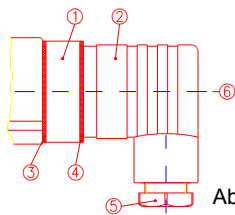

Abb. 6
- Loosen the central screw (pos. 6) M3x35 and remove the plug (pos. 2) from the socket (pos. 1) (fig. 6).